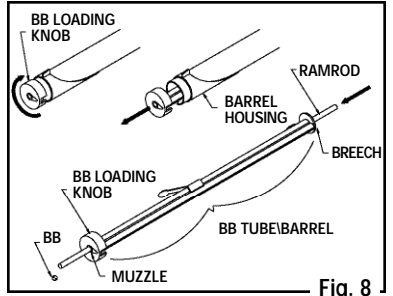

Fig. 8
- With the air rifle "On Safe" (See Step 2A), pointed in a SAFE DIRECTION, and making sure to keep your hands away from the front of the muzzle, turn the BB loading knob so that the slot in the BB loading knob is positioned approximately 90° to the left or right of the top of the barrel (Fig. 8).
- Carefully pull the BB tube from the barrel housing as shown in Fig. 8.
- Insert a ramrod of the proper size into the breech end of the BB tube and carefully push the jammed BB out the muzzle end of the BB tube as shown in Fig. 8.